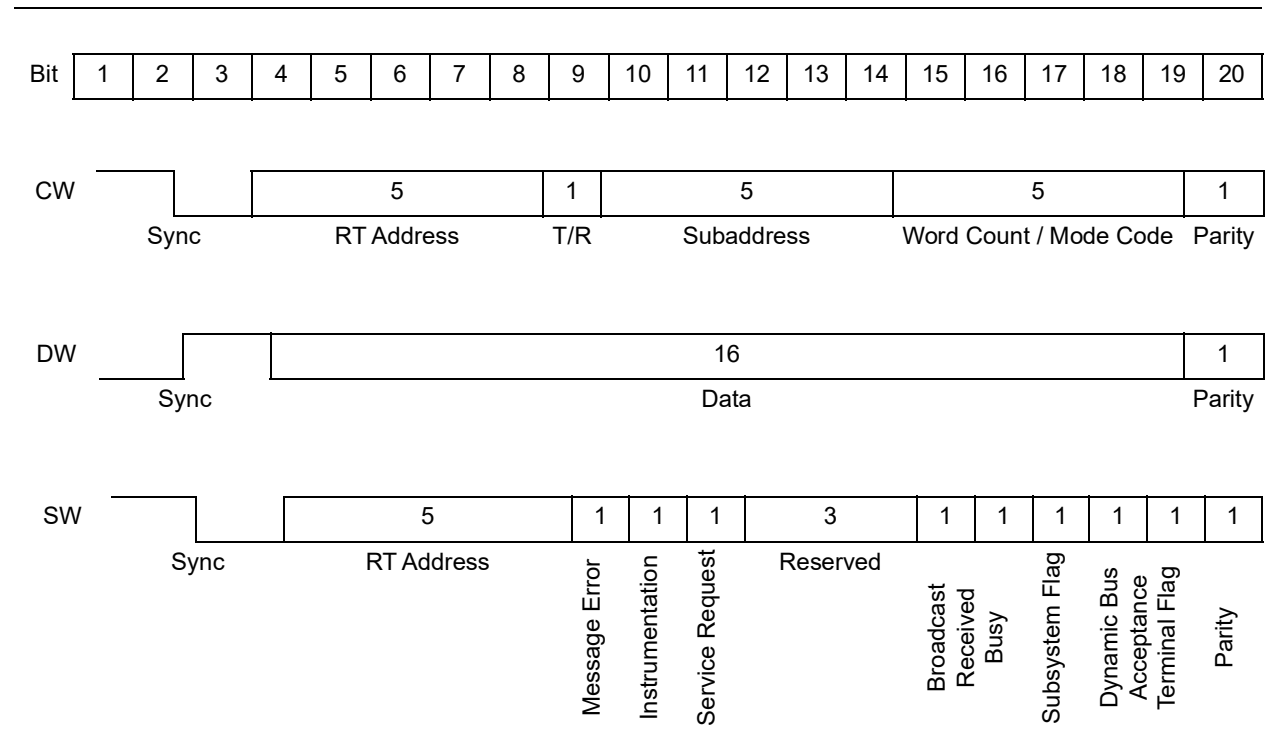

Figure 2-2 • 1553B Word Formats
There are only three types of words in a 1553B message: a command word (CW), a data word (DW), and a status word (SW). Each word consists of a 3-bit sync pattern, 16 bits of data, and a parity bit, providing the 20-bit word (Figure 2-2).